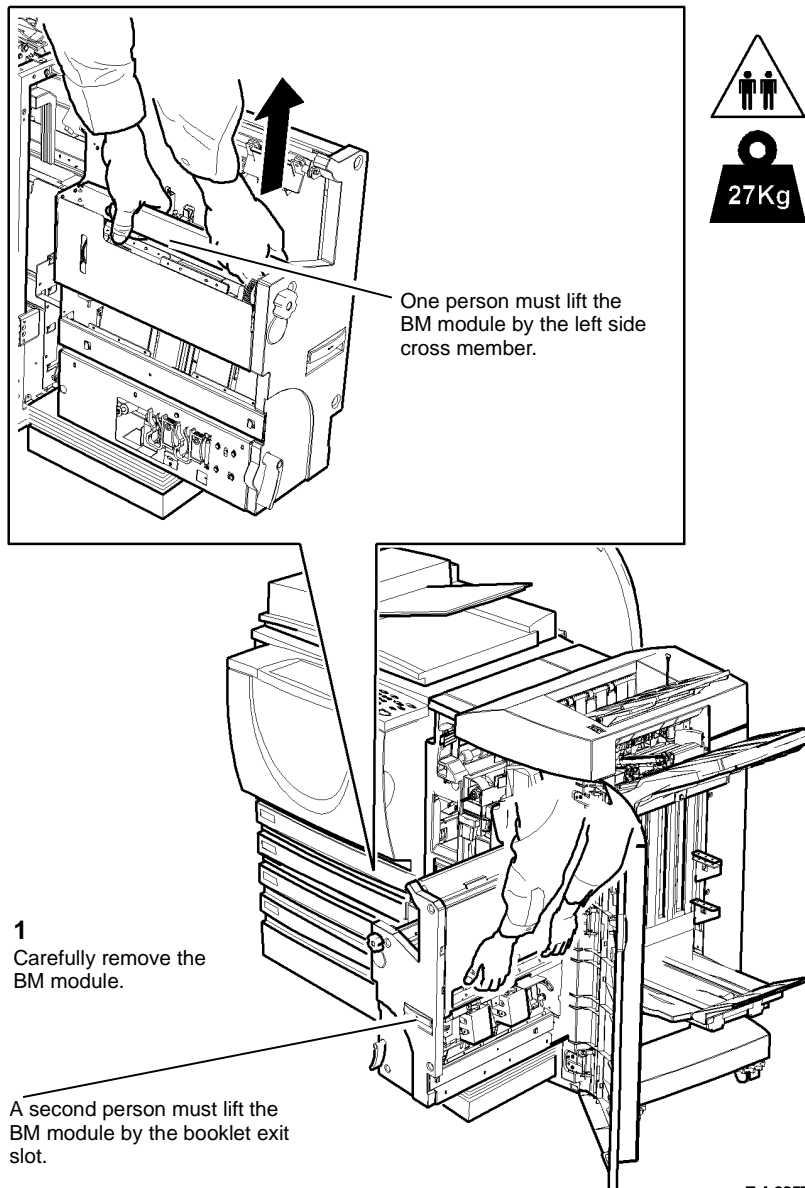

Figure 6 Remove the BM module
7. Figure 6, remove the BM module.